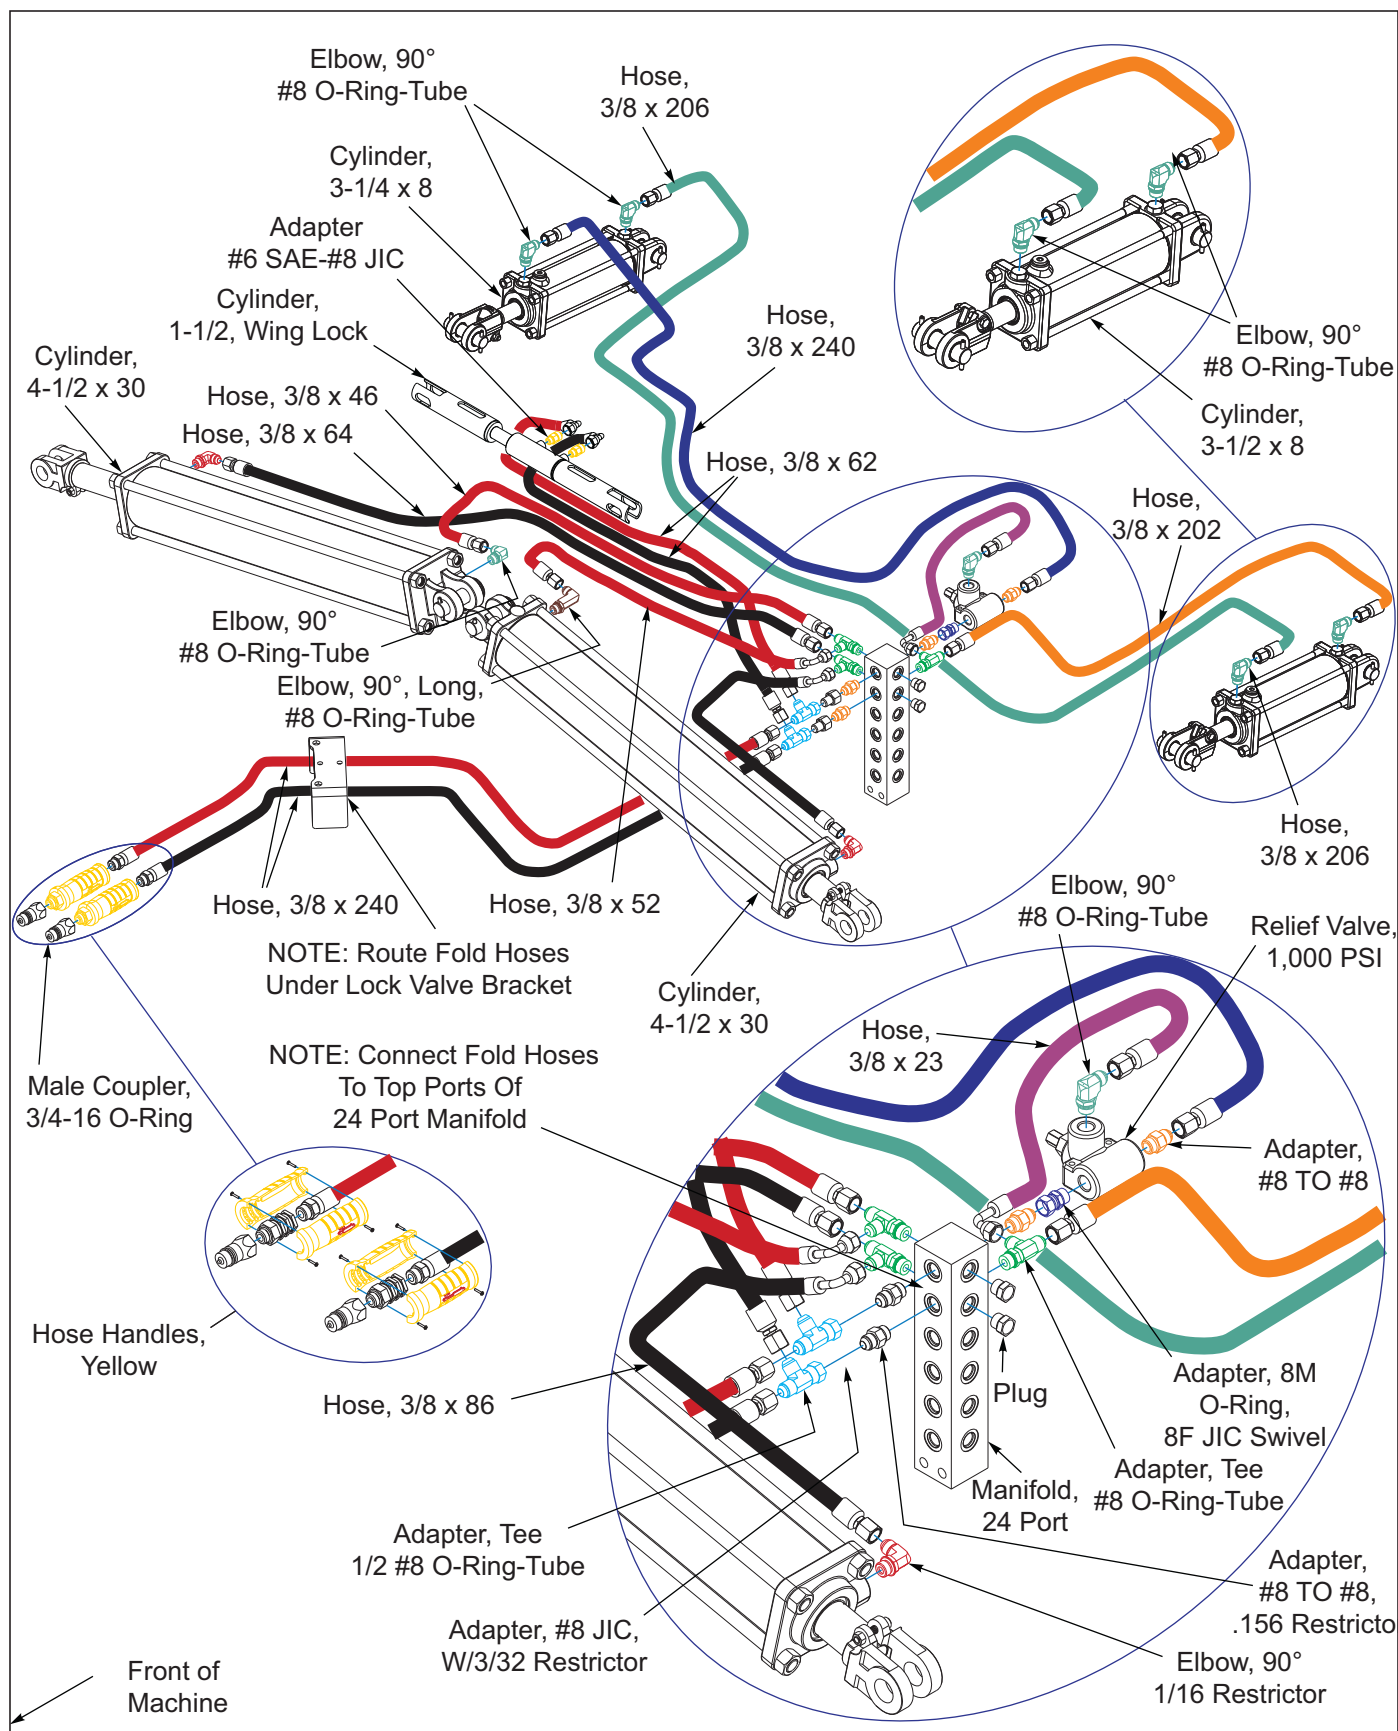
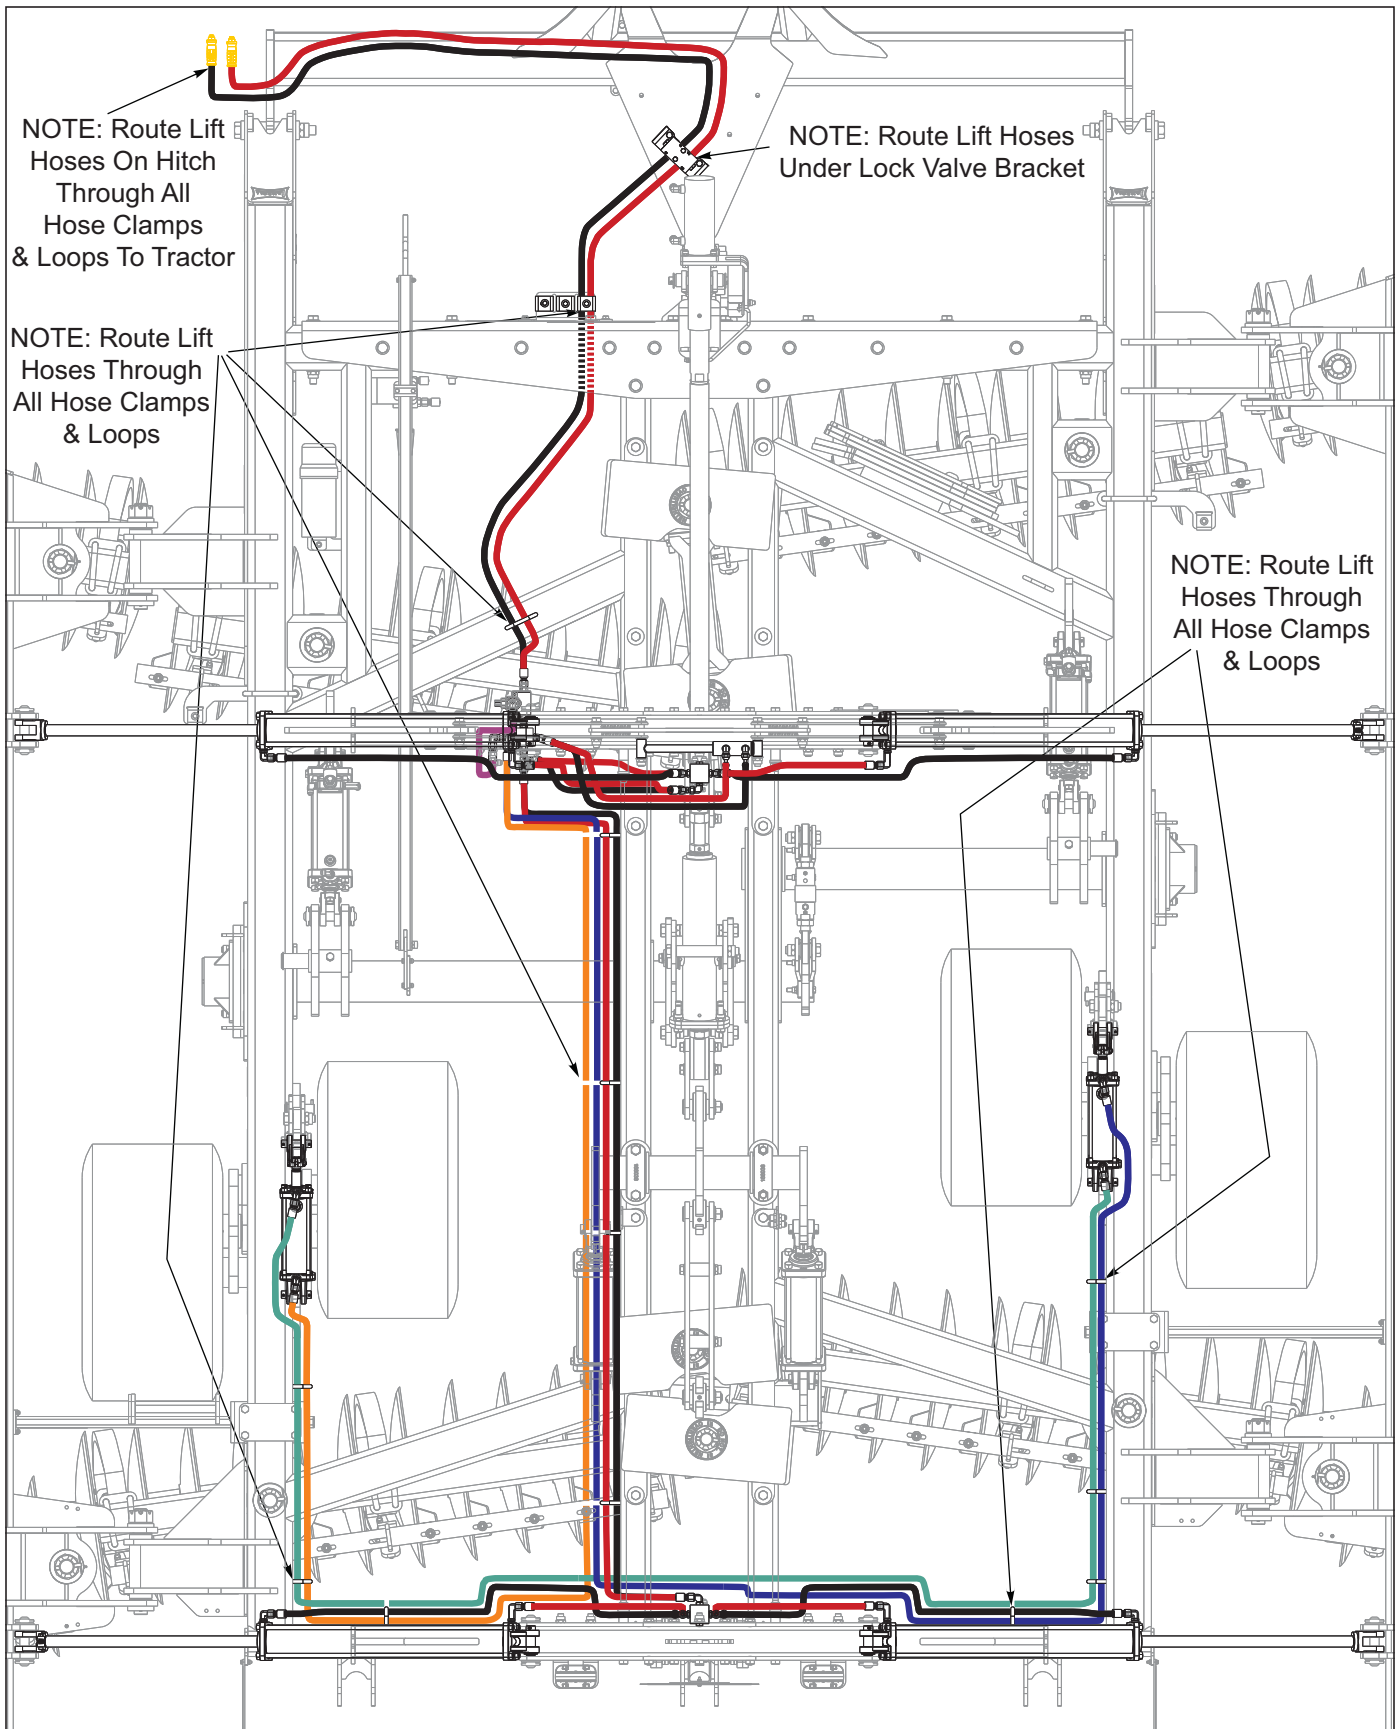

Figure 3-21: Fold Hydraulic Installation 7531-23'
Figure 3-26: Fold Hydraulic Placement 7531-32'-35'
Rod ends of fold cylinders need to be left unassembled and propped up until fold hydraulic system is fully charged with oil to prevent machine damage when folding the first time See Figure 3-21.
Refer to Figures 3-21 - 3-26 for fold hydraulic diagrams for 7531-23'/26'/29' and 7531-32'/35' models.
1. Install the 24 and 8 port hydraulic manifolds at the center and rear of the center frame to the mounts welded to the frames **See Figure 3-21 - 3-35** using 1/2-13 x 3-1/2 or 1/2 x 4 bolts and 1/2 lock nuts. On the front manifold, the top two ports are for the fold system, the middle two are for the lift system, and the bottom two are for the adjustable gangs.
11. Install fold cylinder hoses, couplers and yellow hose handles **See Figure 3-21 through See Figure 3-26**.